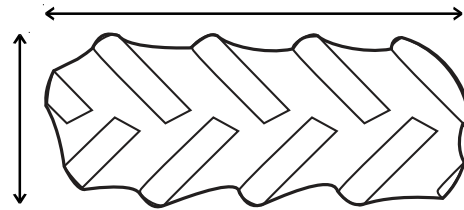

Figure 15. Tire contact area or footprint. The larger the area of contact, the lower the weight applied to a given area of soil.
- The more tire or track area touching the soil, the lower the pressure on the ground. Distributing the load over a greater area by increasing the contact or footprint reduces the risk of soil compaction and rutting (Figure 15).